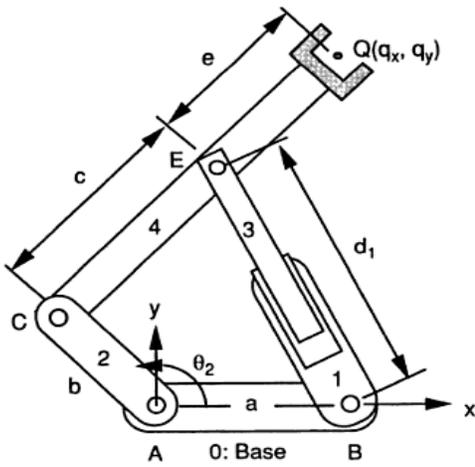

FIG. 3
- Fig.3 shows the schematic diagram of planar 2-DOF five bar manipulator that is constructed with one prismatic and four revolute joints. Find the end effeter position Q as function of the two input joint variables, d_1 and θ_2 . (12 M)